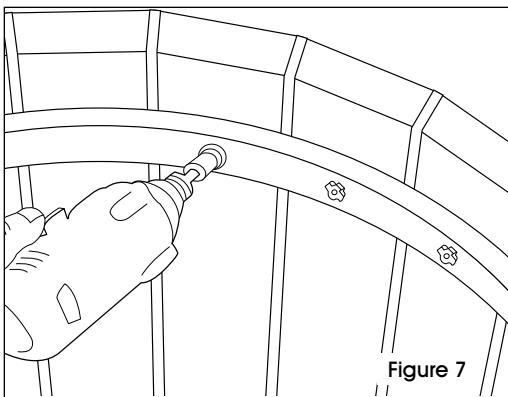

Figure 7
11. From the inside of the receptacle, attach the connector using 3 1/2" hex lag screws and flat washers. Maintain firm pressure on the connector when driving the lag screws. Flip the receptacle over and repeat steps 9, 10, and 11 to attach the connector to the lower ring of the receptacle. (See Figure 7)